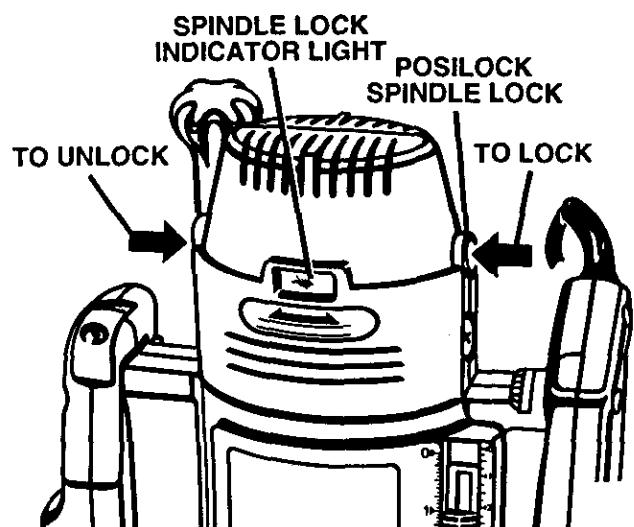

Fig. 3
See Figures 3, 4, and 5.
■ Place the posilock spindle lock into lock position. See Figure 3. Note: If spindle does not lock, turn collet nut with wrench, applying pressure at the same time to the spindle lock with your thumb or finger. When lock mechanism engages with notch in spindle, spindle lock will slide into lock position.